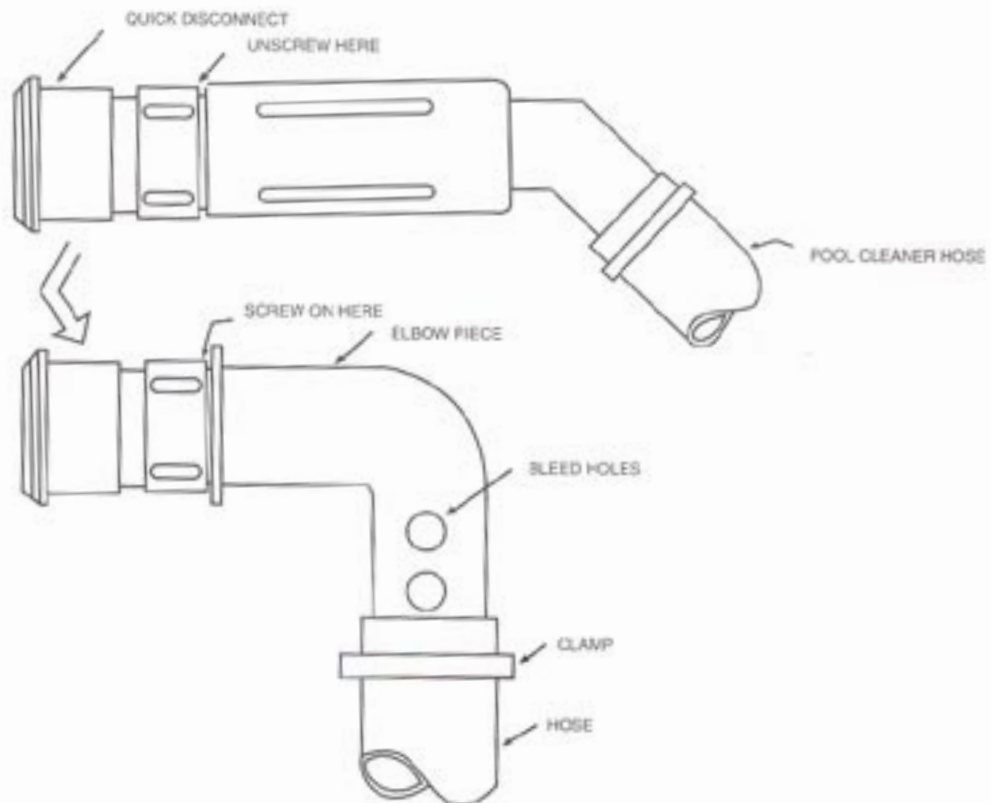

FIGURE 7
- Pool cleaner quick disconnect fittings. Refer to Figure 7. Use installation **instruction 4, page 6** for this type inlet.
2. Unscrew the end of your pool cleaner hose fitting as indicated in Figure 7. Screw the quick disconnect fitting on to the threaded end of the Elbow Piece (6) This is your inlet adapter.
3. Refer to Figure 1. Uncoil the hose (3) and remove all twist. Using clamps (15), clamp one end of the hose to the back side of the fountainhead (1), and the other end to the inlet adapter from step 2. Cover one set of bleed holes with the hose (Fig. 7). To tighten clamp, grasp "tabs" between thumb and forefinger and squeeze. Tighten securely with a pair of pliers. To open the clamp, grip one "tab" of the clamp with pliers and twist loose.
4. Using the tie wrap (14), LOOSELY attach the anchor (4) to the hose (3). The anchor (4) should be attached to the hose (3) at a point as deep as the water plus approximately two feet. You will have to estimate what the water depth is where you want the fountain and add two feet. **CAUTION: DO NOT CONSTRICT THE HOSE BY TIGHTENING THE TIE WRAP (14) TOO TIGHT.**
6. Place the fountain assembly into the pool. Position the fountain in the desired location being careful not to crimp the hose (3).
Height adjustment is achieved by covering more or less of the bleed holes (Fig. 7) on your elbow piece (6) with the hose (3). The more holes covered, the higher the fountain and vice versa.